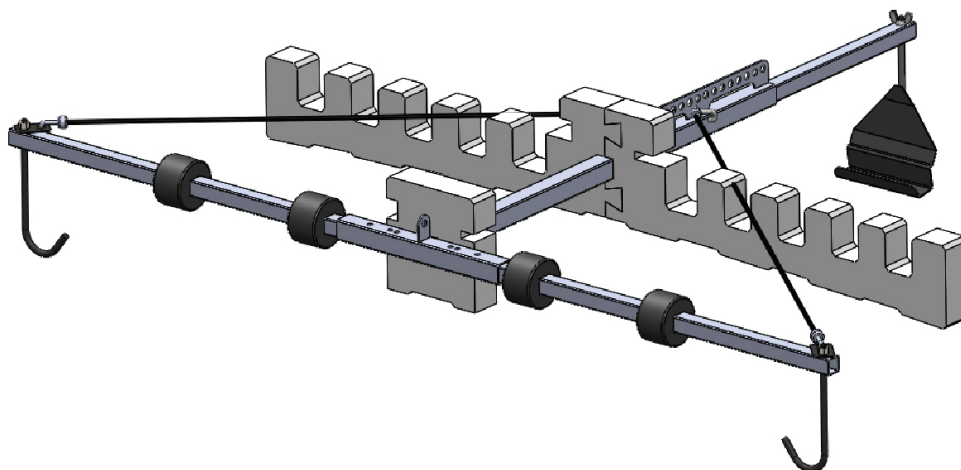

Fig. 2
- D. Assemble long foam supports (HAT-135) just in front of the lifting blade (HAT-101) as shown in Fig. 2